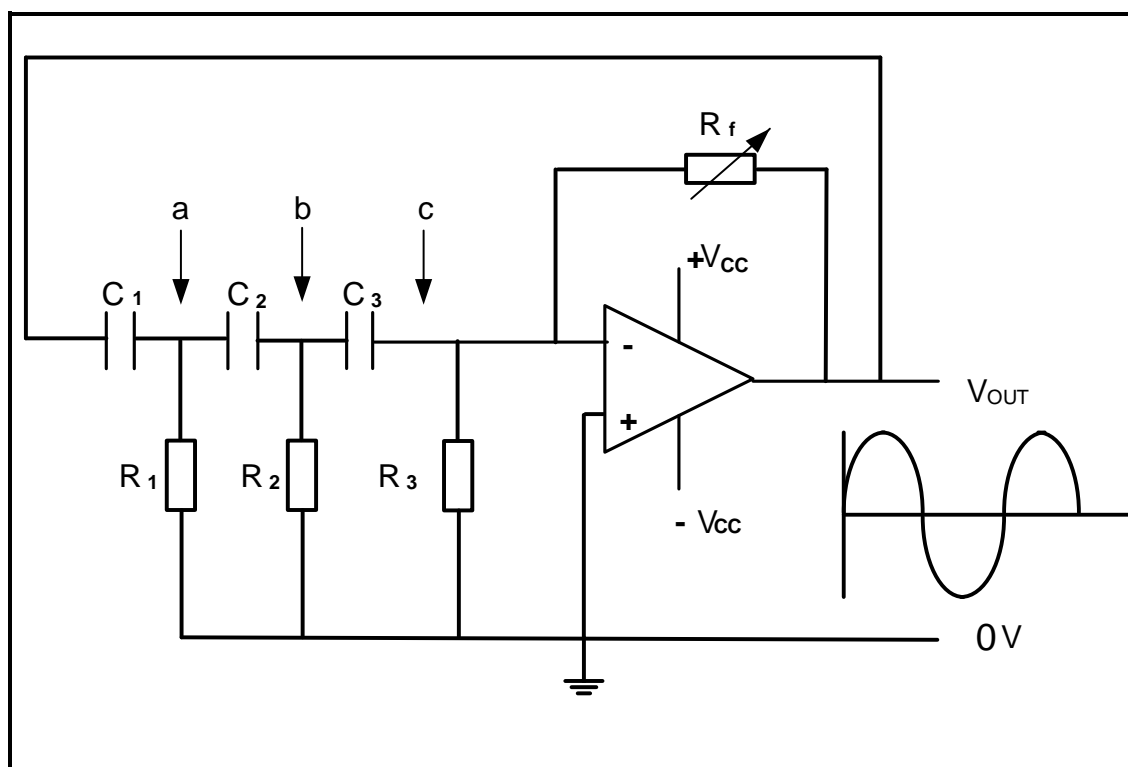
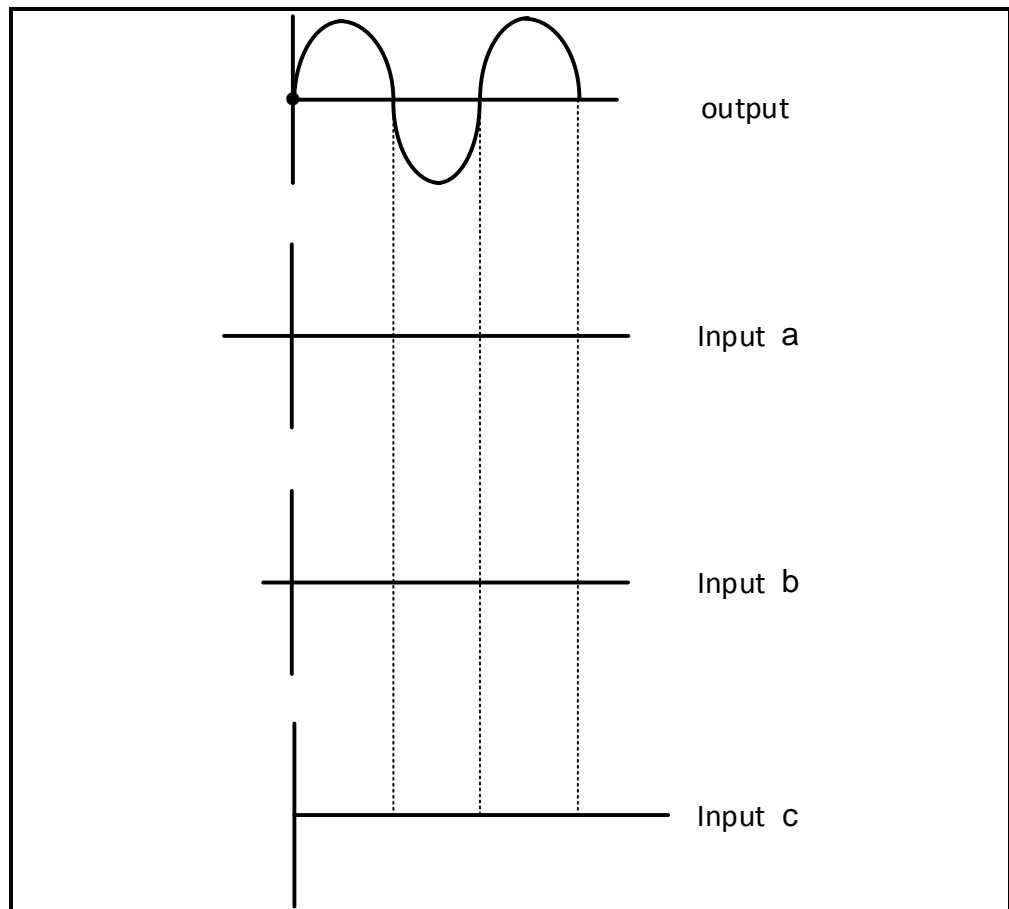

FIGURE 7.7: RC PHASE-SHIFT OSCILLATOR CIRCUIT
FIGURE 7.7.3
7.7 Refer to the circuit in FIGURE 7.7 below and answer the questions that follow.
- 7.7.3 Redraw FIGURE 7.7.3 below in the ANSWER BOOK and draw the waveform represented at points **a**, **b** and **c** (in FIGURE 7.7 on page 15) with reference to the output.